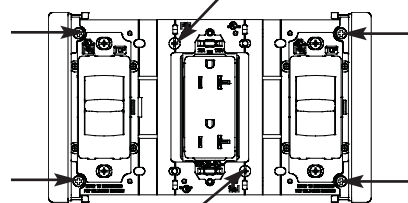

Figure 4 / Figura 4 / Figure 4
- Wire the device per the manufacturer's instructions and install the devices in the wall box using the mounting screws provided (leave mounting screws "finger tight" at this point). (See Figure 4.)